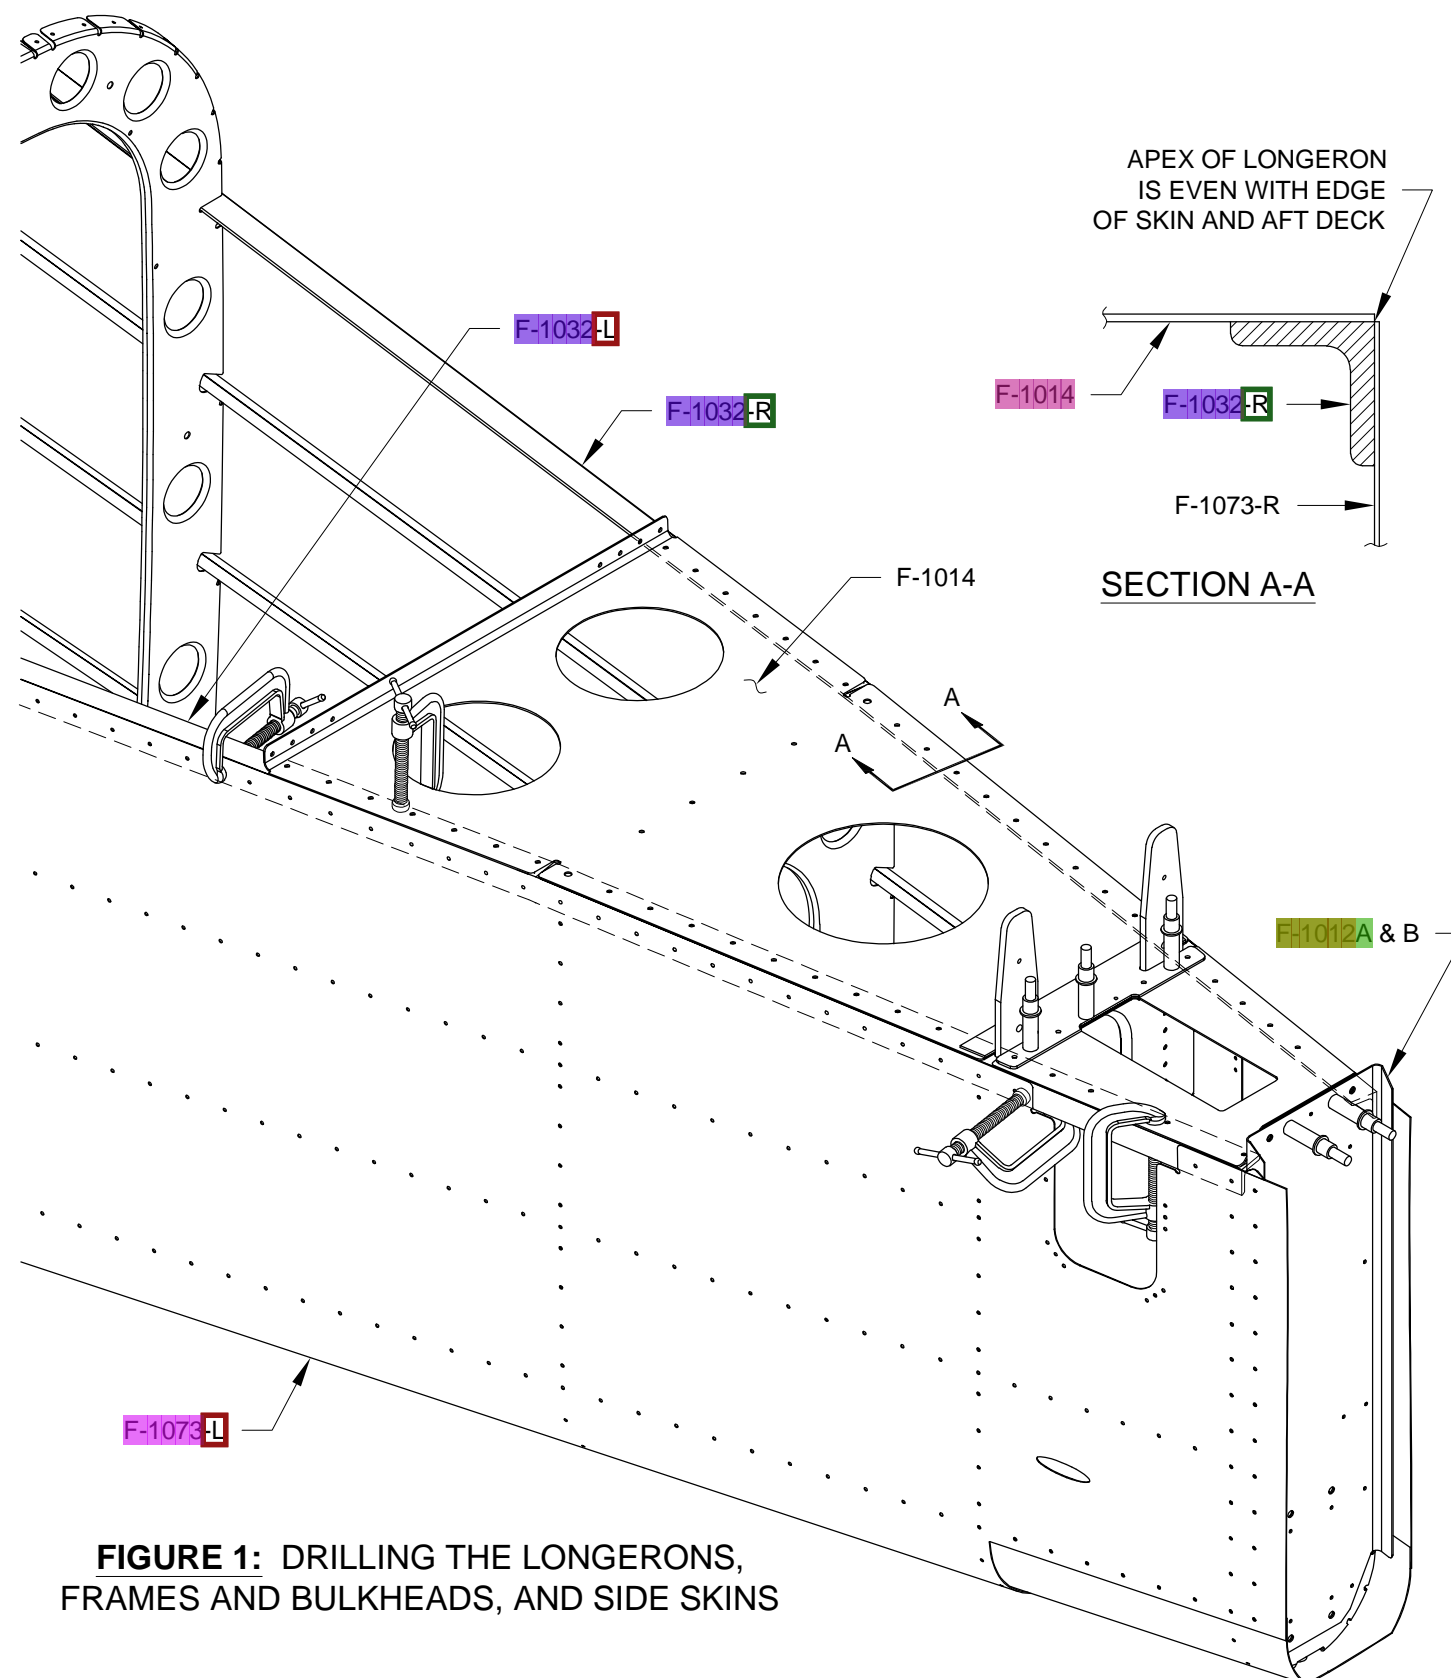

FIGURE 1: DRILLING THE LONGERONS, FRAMES AND BULKHEADS, AND SIDE SKINS
Step 1: Make sure the bend in the F-1032 Longerons is still located at the break in the F-1073 Side Skins, then clamp the longerons to the F-1014 Aft Deck and the side skins as shown in Figure 1 (only one side is shown clamped). For proper alignment, the apex (corner) of the longerons must be clamped even with the edges of the skins over their entire length. They must also be clamped even with the side edges of the F-1014 Aft Deck. See section A-A in Figure 1.